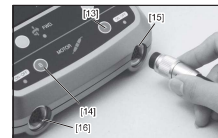

Fig. 3
- Insert the motor cord plug into the Motor Plug Connector [15] and align the pin on the plug with the groove on the connector and tighten the motor cord plug nut (Fig. 3).